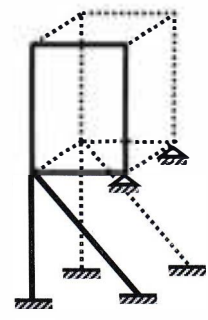

Fig.10
10. Determine the degree of kinematic indeterminacy (*doki*) and show the corresponding deflections and rotations of the 2D frame (**Fig.8**) and 3D frame (**Fig.10**), for the following cases